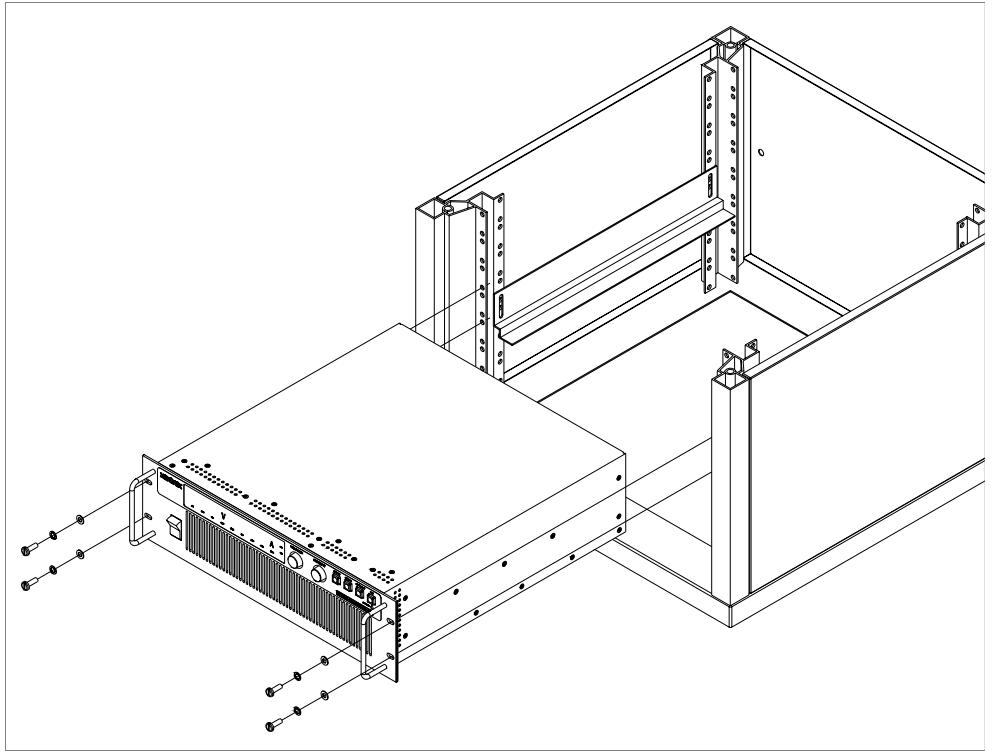

Figure 2.3 Mounting the Power Supply in the Rack With Support Rails¹
2. With the help of at least one other person, lift the unit out of its package and slide it into an empty space in a mounting rack equipped with rails that are rated to support the unit's weight. See Figure 2.3.
4. The front panel mounting brackets are designed to prevent the unit from sliding out of the rack, not to support its full weight. Provide adequate support for the rear of the unit without obstructing the ventilation inlets. Use slide rails as illustrated in Figure 2.3 or slide brackets attached to the 8-32 mounting holes on each side of the unit. Follow the manufacturer's instructions to install rails or slides.